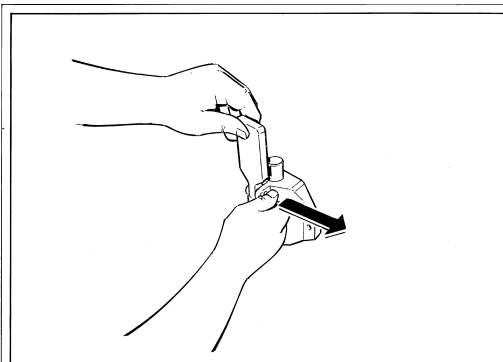
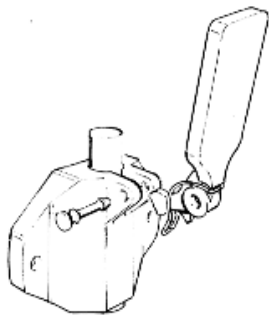

Fig. 40
Fig. 41
- Dismantle the tap from the flange by removing the fixing pin (Fig. 40) so that you can remove the lever and its spring and release the piston from its housing (Fig. 41).